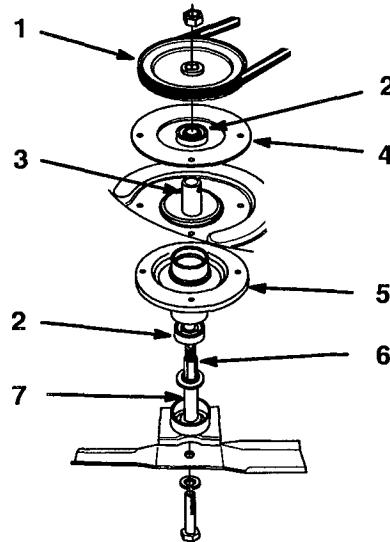

**Figure 21**
4. Install the drive belt around the drive pulley on the traction unit, lift up on the idler and place belt around gearbox pulley (Fig. 21).
4. Remove locknut retaining spindle pulley on spindle shaft. Slide pulley off shaft, which will allow spindle shaft to be removed from spindle housing (Fig. 21).
5. Remove bolts and nuts holding spindle housing and support ring against cutting unit. Slide spindle assemble out bottom of cutting unit (Fig. 21).
7. Reposition spacer and bearings in spindle housing. Make sure bearings have open side toward the center and hole in spacer is aligned with groove in shaft (Fig. 21).
8. Install spindle in spindle housing. Make sure bearings and spacer are properly positioned on shaft (Fig. 21).
9. Slide pulley end of spindle assembly through hole in cutting unit. Secure spindle assembly in place with support ring, bolts and nuts previously removed (Fig. 21).
10. Slide pulley onto spindle shaft and secure with locknut (Fig. 21). Torque locknut to 100–120 ft-lb. (135–162 N•m). Rotate shaft to check for free rotation.